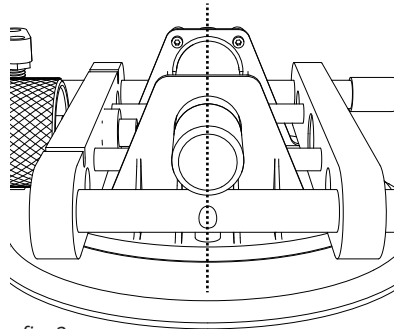

fig. 2
6. On each unit, turn the knurled roller to center the handle cylinder with the alignment notch. (see fig. 2)